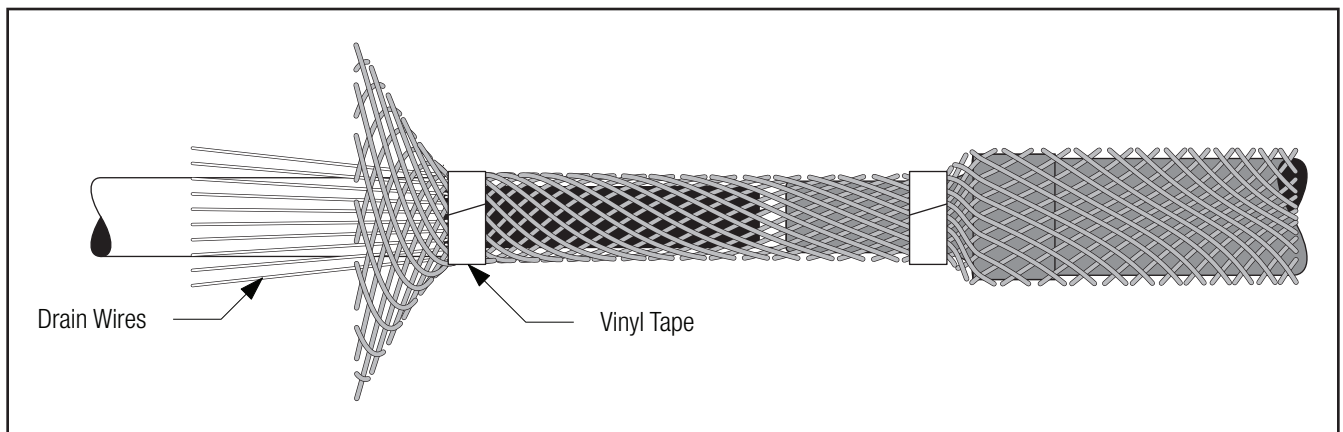

Figure 25
6.3.1 Carefully remove vinyl tape from drain wires. Secure sleeve to cable semi-conducting layer next to each cable jacket using two wraps of vinyl tape (Figure 25).